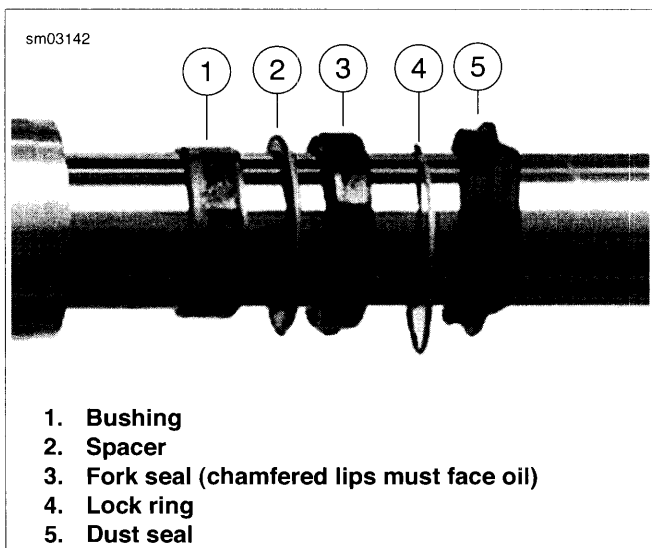

Figure 2-158. Seal Components
- See Figure 2-158. Once fork tube and slider are separated, remove dust seal, lock ring, fork seal, spacer, bushing and chrome dust cover (not shown) from fork slider.